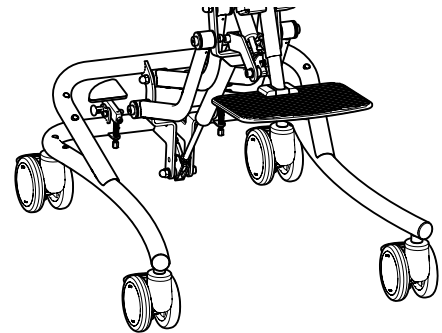
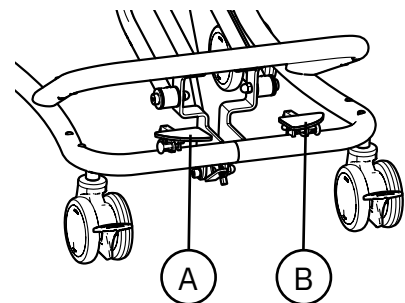
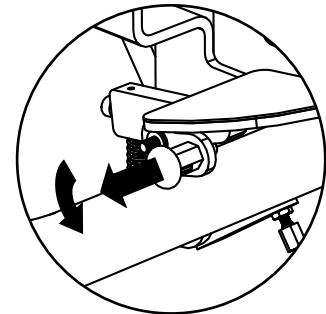

Figure 5.44. Base with high-low function.
Figure 5.45. Foot pedals for adjusting seat height and tilt.
Figure 5.46. Locking function for pedals.
The base has individual brakes on each castor, as well as built-in adjustment for seat height and tilt, see Figure 5.44. Seat height (A) and seat tilt (B) are adjusted with pedals at the rear edge of the base, see Figure 5.45. The pedals also have an integrated locking function, see Figure 5.46.